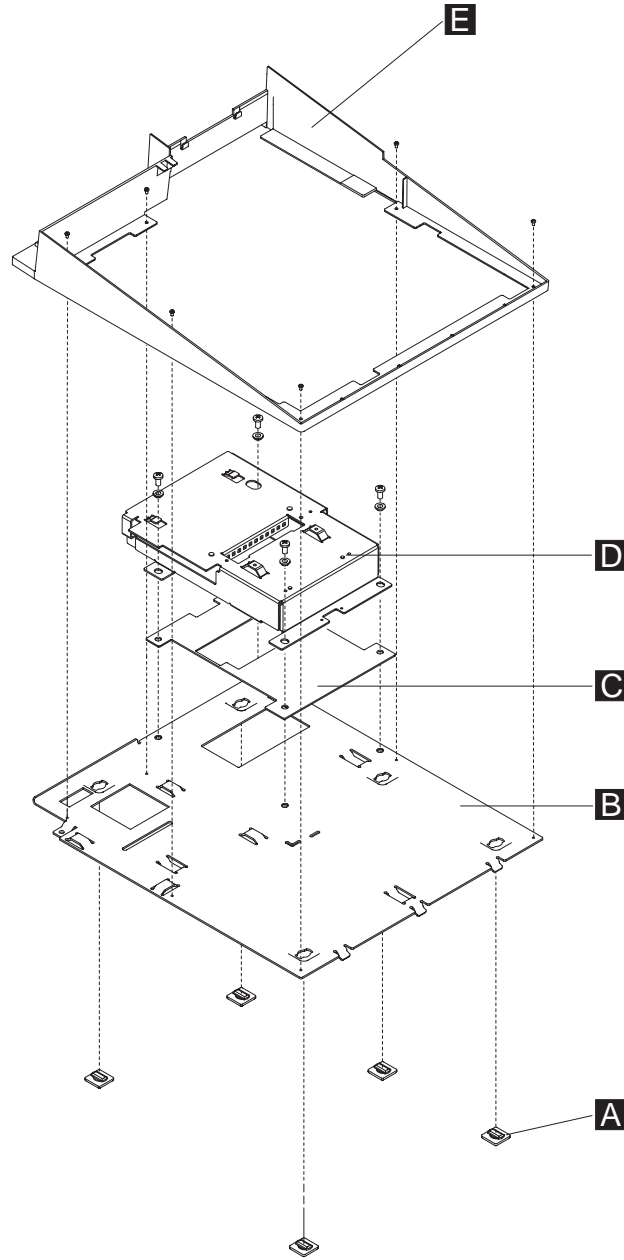

Figure 26. Countertop keyboard-integration tray assembly
2. For a free-standing unit, ensure that the four rubber feet **A** are installed on the bottom of the countertop keyboard integration tray (as shown in Figure 26 on page 35).
- a. Remove the fence **E** from the countertop keyboard-integration tray by removing the screws as shown in Figure 26 on page 35.
- c. Remove the rubber feet **A** located on the bottom of the integration tray. See Figure 26 on page 35 for location of feet.